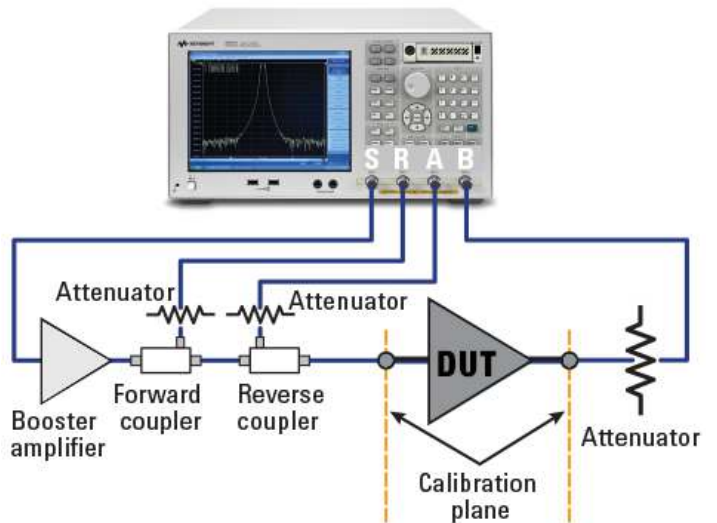

Figure 10. Test setup of high-power measurements with external test set mode in 4-port ENA
In order to solve these problems, the 4-port ENA offers an external test set mode that enables a flexible configuration when combined with external directional couplers and a booster amplifier. This test set mode allows the ENA's 4-ports to be arranged as a source port (S channel), reference port (R channel), and test ports for reflection and transmission responses (A & B channels). The configuration is presented in Figure 10. Note that since the source port is fixed on port 1 of the ENA with external test set mode, full 2-port calibration is unavailable and S_{22} or S_{12} cannot be obtained. Enhanced response cal is recommended to get the most accurate results with this mode.
- (1) **Connect the external couplers and the DUT. (Figure 10)**
- (2) **Set up the external test set mode.**